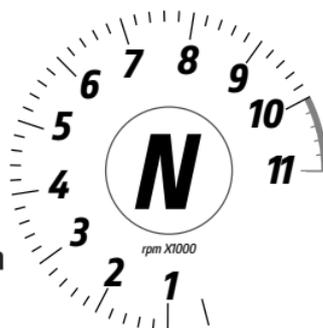

Fig 83
Once the DPL level is set, the instrument panel shows the wait screen for 2 seconds (Fig 82): during this time, if you press the ENTER button (3), the wait phase is interrupted and the instrument panel displays the main screen and sets the DPL to OFF. Then the instrument panel shows the "assisted launch" screen (Fig 83).